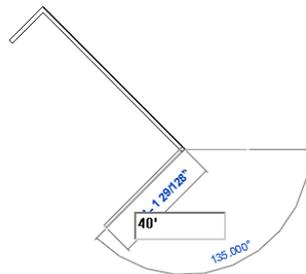

Figure 3-45 Sketching the third inclined wall segment
6. Similarly, for creating the next wall, move the cursor downward to the left and choose the perpendicular snap override as in step 5. Enter **40' (12192 mm)** as length, as shown in Figure 3-45. Now, press ENTER to create the third inclined wall.